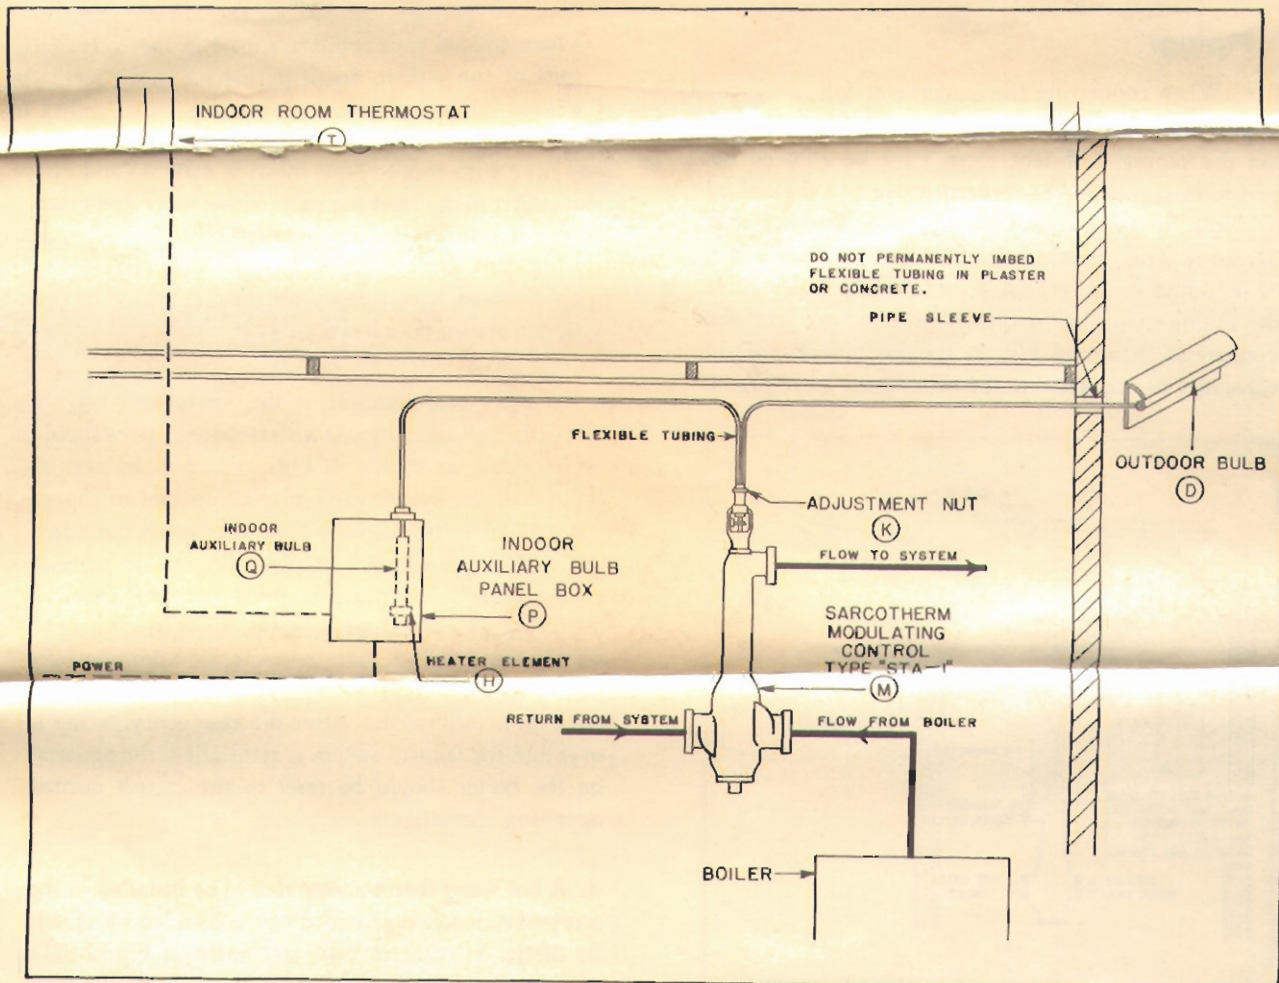
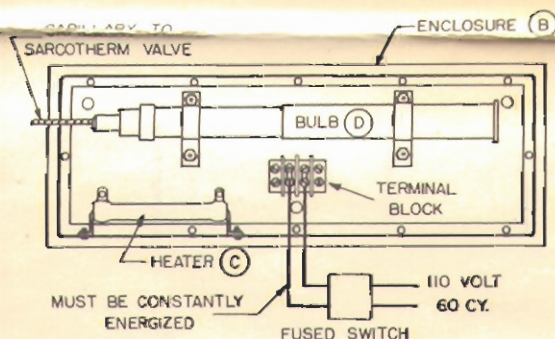
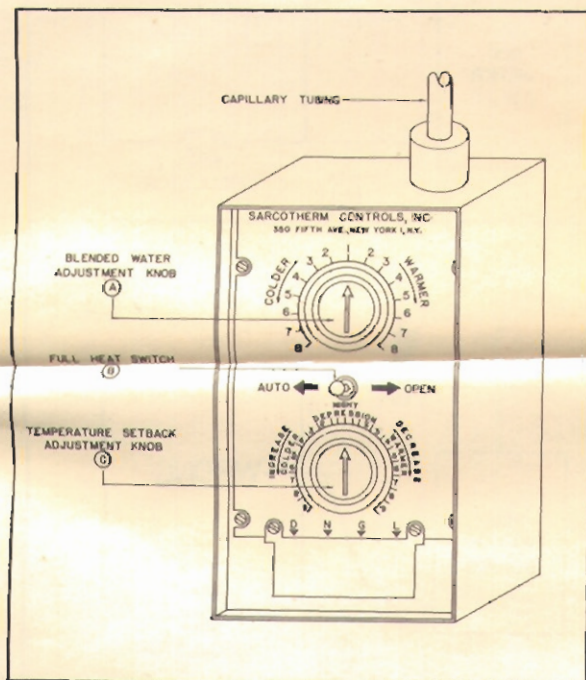

Fig. 1. Schematic Hookup Showing Type STA-1 System.
Fig. 5. Special Heat Loss Outdoor Bulb.
Fig. 9. STA-1 Panel Without Cover.
The complete control system consists of the Sarcotherm control, outdoor bulb, auxiliary bulb panel box and room thermostat as shown in Fig. 1. (For correct wiring for your particular job see wiring diagram enclosed).
Fig. 1, which resets the three way mixing valve M, so that hot water from the boiler and cooler return water are mixed in correct proportion to deliver blended water to the radiators or coils at the temperature called for by outdoor conditions.
The Sarcotherm control valve can be furnished with a special outdoor bulb affected both by wind velocity and radiation. The bulb D, Fig. 5, is placed in an enclosure E having an electric heater C which generates sufficient heat to the extent that the rate of heat loss is in proportion to the building heat loss. Since the enclosure in which the outdoor bulb D is housed gains
2. Set indoor thermostat to 85°F, allow ten minutes before proceeding and make certain that full heat switch is in "Auto" position (Fig. 9).
Your control is now properly set and should not be disturbed. However, further small adjustments can be made through the blended water temperature adjusting knob on the auxiliary bulb panel box (see A, Fig. 9) as described below.
Simply turn the blended water temperature adjusting knob A (Fig. 9) toward "Warmer" or "Colder" as desired. The maximum change will affect the control by about plus or minus 15%. For example, if the Sarcotherm valve is calibrated to deliver 190°F water at the lowest outside design temperature and 90°F at the highest outside temperature, the total range is 100°F. This would mean that 15°F would be the maximum temperature change obtainable with this adjustment toward either "Warmer" or "Colder." Each division on the scale gives about $\frac{1}{3}$ of this total change.
The type STA-1 control is equipped with an auxiliary bulb in the panel box P (Fig. 1) which, when operated by the indoor room control, reduces the delivered heat to the building whenever the room temperature exceeds the indoor thermostat setting. The amount by which the heat delivered is reduced may be reset through the temperature setback adjustment marked "Night Depression" (C, Fig. 9). The procedure is as follows:
1. Turn indoor thermostat to its lowest setting and make certain that circulator is running. If a time switch is used only to give night setback, make certain that switch is in closed position and supplies current to terminal N (Fig. 9).
To turn system to "full heat" simply turn switch B (Fig. 9) to "Open" position. Remember to return the system to "Auto" at the completion of the rapid heat-up period.
Check to see if manual bypass valves around the controls are closed and if full heat switch B (Fig. 9) is in "Auto" position. If temperature is still high, adjust knob A (Fig. 9) to extreme position toward "Colder." If temperature drops sufficiently it indicates that the Sarcotherm control operates but needs resetting. Proceed to adjust as described on page 8. Reset knob A (Fig. 9) to middle position. If, after adjusting knob A to the extreme cold position no change occurs, set room thermostat to its lowest setting and check wiring by placing a test lamp across terminals D and G and N and G (Fig. 9). In both cases test lamp should light up. If it does not, wiring is incorrect. If it does, and the water temperature still remains the same, test the thermostatic system as described below. Before doing this make certain, however, that the return line strainer is not blocked or the gate valve on the return line is not closed. Note: If special heat loss outdoor bulb is installed make certain that heater C, Fig. 5, is energized.
Set room thermostat to its highest setting. If after ten minutes temperature has not changed, adjust knob A (Fig. 9) toward "Warmer" to the extreme position. If the supply water temperature increases, control needs readjusting and proceed as shown on page 8. Do not forget to reset knob A to its middle position. If no appreciable change occurs after adjusting knob A, turn full heat switch B (Fig. 9) to "Open" position (for a short while). There should be a gradual rise in supply water temperature. If this does not occur, the hot water line is blocked or there is an airlock in the system preventing circulation. In any case it is advisable to clean the strainer on the hot water line by removing the strainer screen. Check to see whether a large mesh screen is furnished suitable for water service.